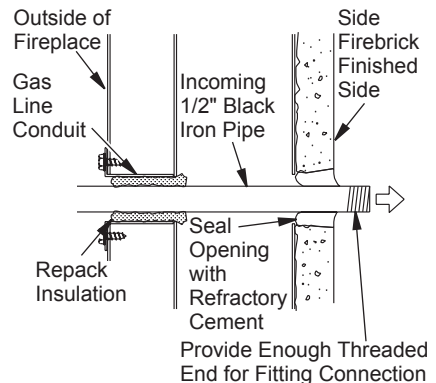

Figure 30 - Gas Line Installation
3. Run gas line into the fireplace through the rear at 11 1/4" from floor and through gas line conduit sleeve (if using a raised platform, add height). Provide sufficient gas line into fireplace chamber for fitting connection (see Figure 30).